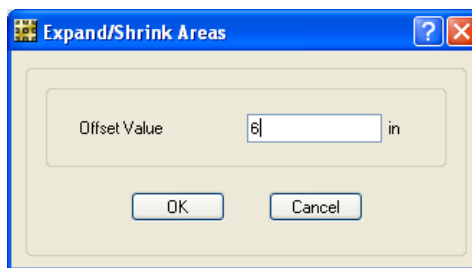

Figure 72 Expand/Shrink Areas form
- L. Click the **Edit menu > Edit Areas > Expand/Shrink Areas** command to display the Expand/Shrink Areas form shown in Figure 72.